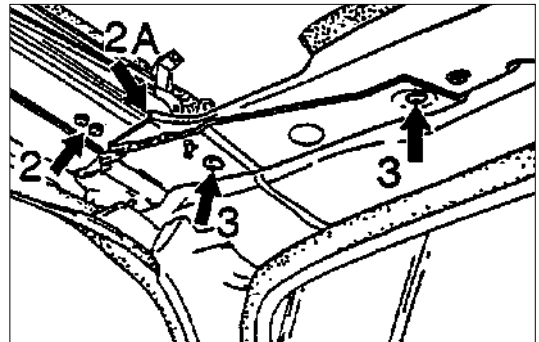

Figure 9
- Install new torx bolts (Figure 9, arrow 2), part number, 993 562 567 00 and torque to 5.5 Nm (4 ft/lb). (bolt with washer, same as on figure 9, arrow 3).
As of January 22, '97 the bolts on the securing points (Figure 9, arrows 3) were changed from M5 x 9.5 to M6 x 10 (part number, 993 562 741 00) bolts. The longer bolts cannot be installed in earlier vehicles.